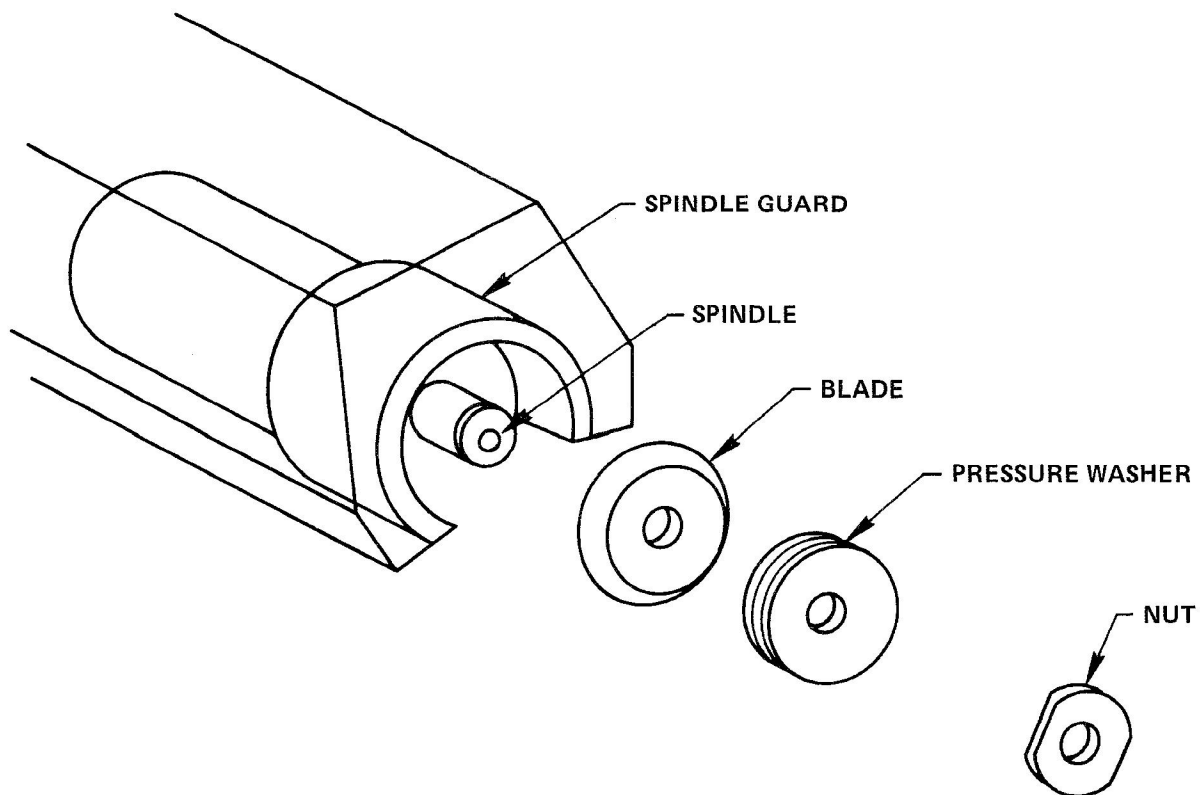

Figure 3-8: Assembly of Blade, Pressure Washer, and Nut.
- o Place the pressure washer and the nut on the spindle. The order of assembly of the blade, pressure washer, and nut are shown in Figure 3-8.